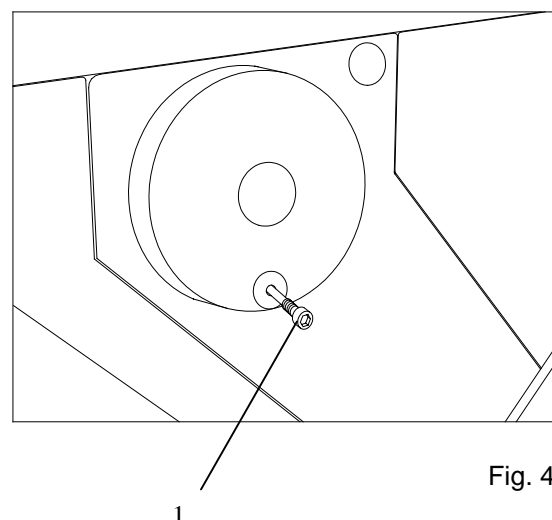

Fig. 4b
Instead of the handwheel handle, a transportation screw (fig. 4b.1) is inserted into the handwheel. This way, the handwheel is tightly and securely connected with the housing of the cryostat. **It is absolutely necessary to remove this transportation screw before the initial turn-on!**
- Loosen the transportation screw (fig. 4b.1) via the Allan key, size 6.